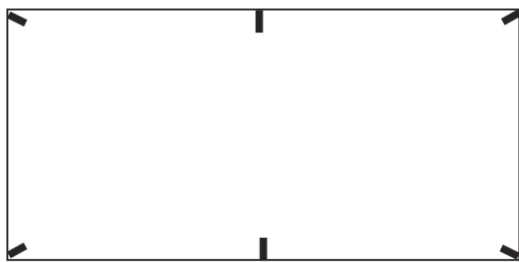

Figure 8.1. Slitting of Thermobreak Sheet.
- 1. Thermobreak Sheets (usually supplied in 1200mm x 600mm dimensions for raised floor applications) should be slit each corner at half way in order to fit the sheets between pedestals (Figure 8.1). The slit should be long enough to